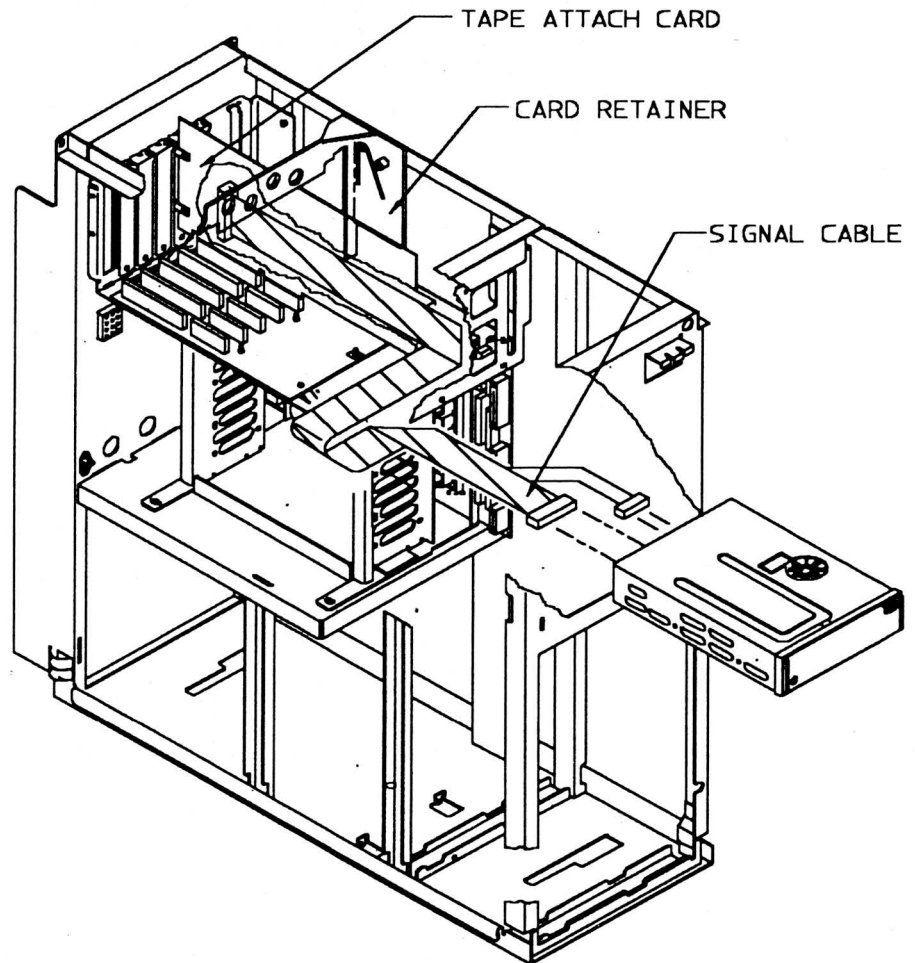

FIGURE 1
- 10.3 INSTALL TAPE ATTACH CARD (use Figure 1 for Steps 10.3.1 through 10.3.5)
10.3.5 Route signal cable as shown in Figure 1. Cable folds as indicated.